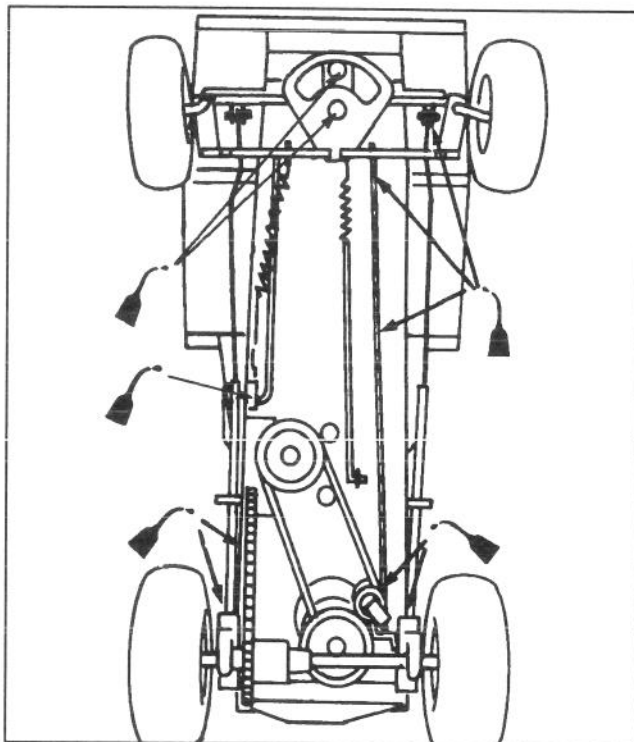
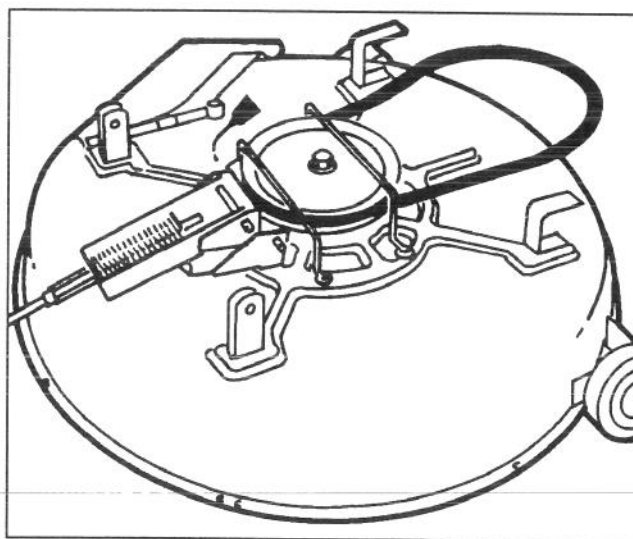

Figure 13
Figure 14
7. Lubricate the pivot points in the steering, drive, brake, clutch, and deck engagement linkage with light oil (Fig. 13). Also lubricate the mower housing (Fig. 14). Wipe up any excess oil.